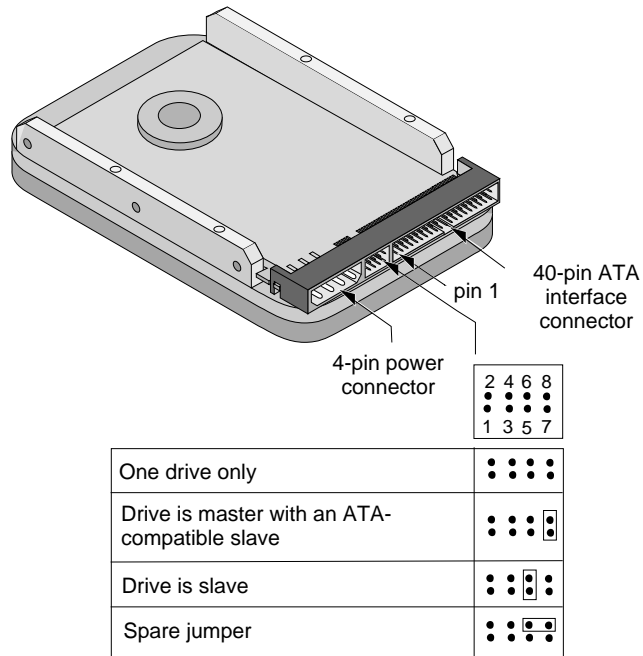

Figure 1. Master and slave jumper settings
- Place a jumper on pins 7 and 8 (see Figure 1 on page 5).
- Place a jumper on pins 5 and 6 (see Figure 1 on page 5).